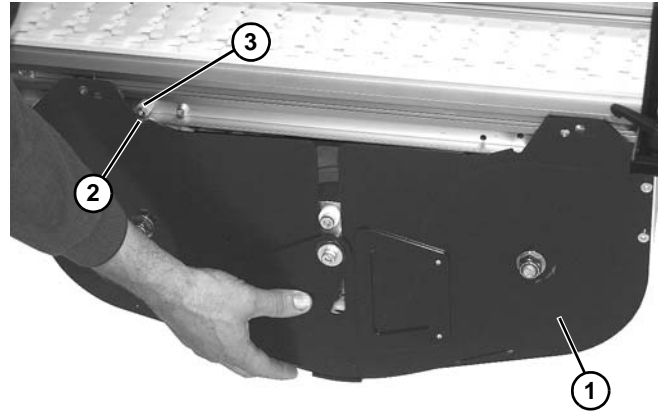

Figure 63
4. Raise weighted take up assembly (Figure 63, item 1) with notch (Figure 63, item 2) in assembly mating with stud (Figure 63, item 3) on conveyor frame.